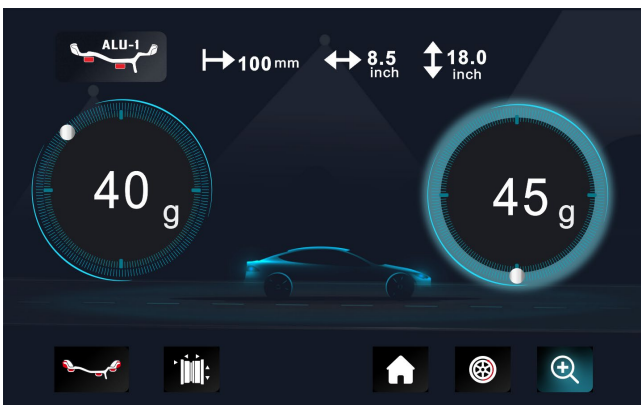

Fig. 6
4.2.5. Press , the displays with right LED's lit up full indicate the correct angular position where to mount the counterweights, 6 o'clock position outside, as Fig.6, add the counterweight.